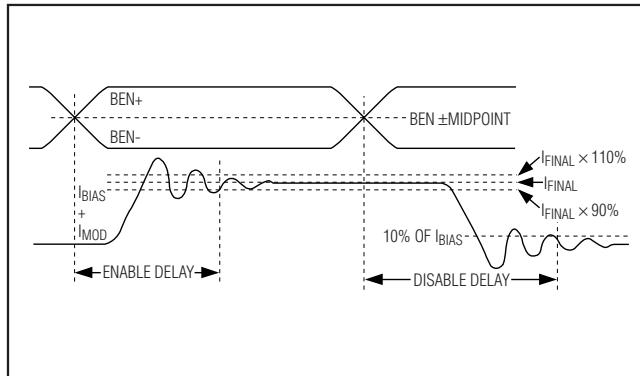

Figure 1. Enable and Disable Delay Times
**Note 11:** Enable delay is measured between (1) the time at which the rising edge of the differential burst enable input signal reaches the midpoint of the voltage swing, and (2) the time at which the combined output currents (bias and modulation) reach 90% of the final level set by RAPCSET, RBIASMAX, and RMODSET (after all transients such as overshoot, ringing, etc., have settled to within 10% of their final values). See Figure 1. Measurement done for  $10mA \leq I_{MOD} \leq 85mA$  and  $4mA \leq I_{BIAS} \leq 70mA$ .
**Note 12:** Disable delay is measured between (1) the time at which the falling edge of the differential burst enable input signal reaches the midpoint of the voltage swing, and (2) the time at which the combined output currents (bias and modulation) fall below 10% of the bias on current (after transients have settled). See Figure 1. Measurement done for  $10mA \leq I_{MOD} \leq 85mA$  and  $4mA \leq I_{BIAS} \leq 70mA$ .